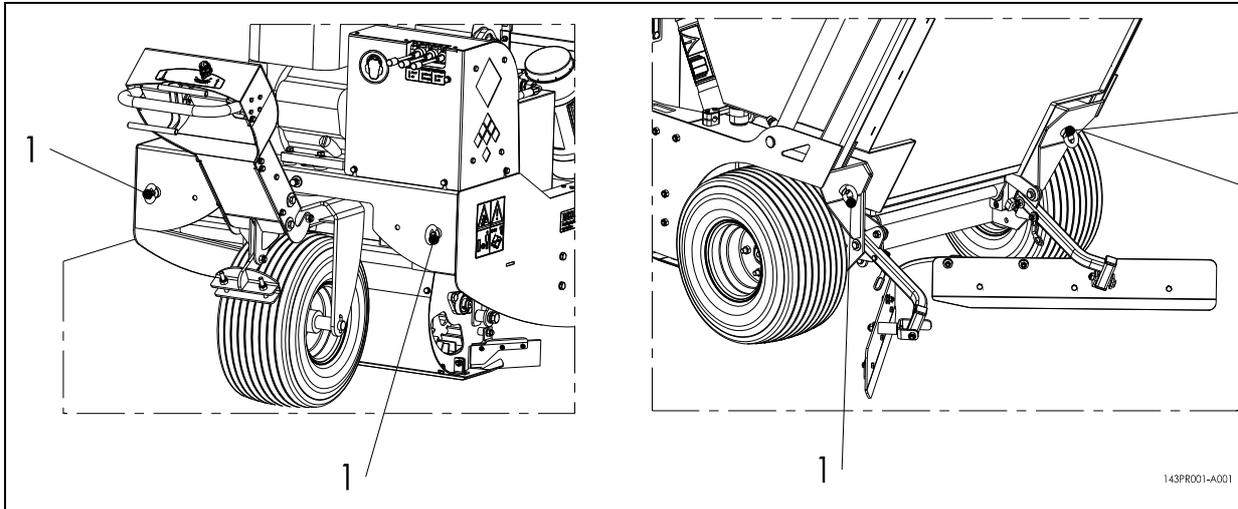

Figure 12
Use the four lifting eyes (1) to secure the Core Collector during transport (see Figure 12).